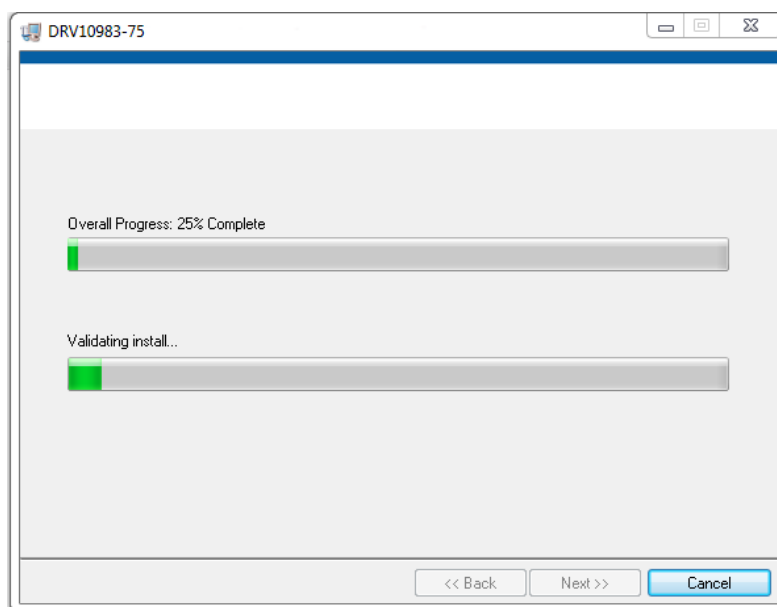

Figure 1-6 Installation in Progress
5. The installer will begin self-extraction and proceed with the installation as shown in Fig.1-6.